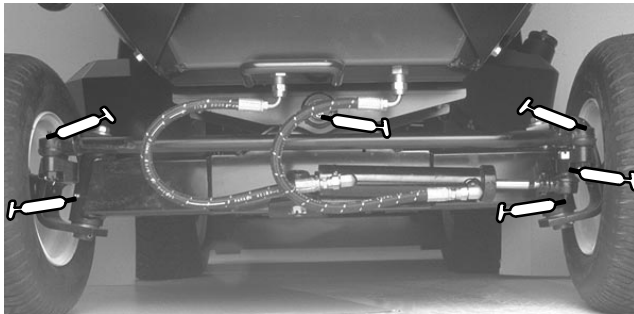

Figure 1
2 Wheel Drive Models only—Steering cylinder ball joint, Rear axle tie rod (2), Rear axle pivot (1) Rear Spindle Shafts (2) (Fig. 1).